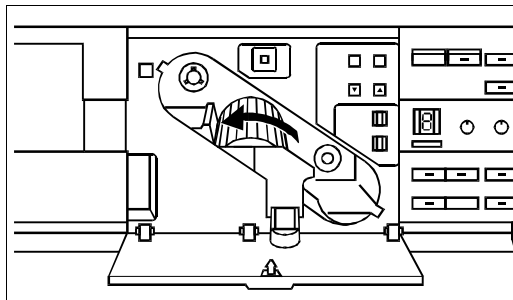

Figure 6-36. Turning Drum to Remove Paper
2. Remove the jammed paper while turning the drum in the direction of the arrow (Figure 6-36).